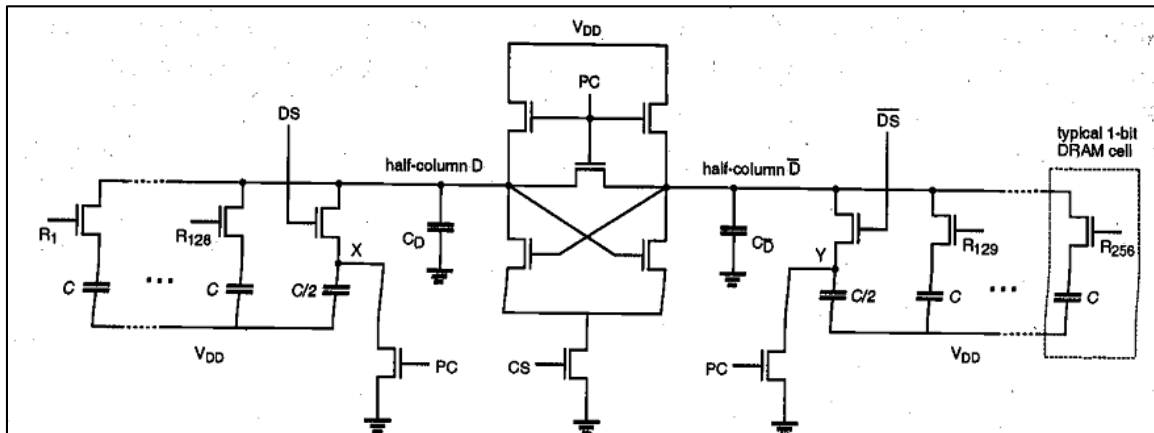
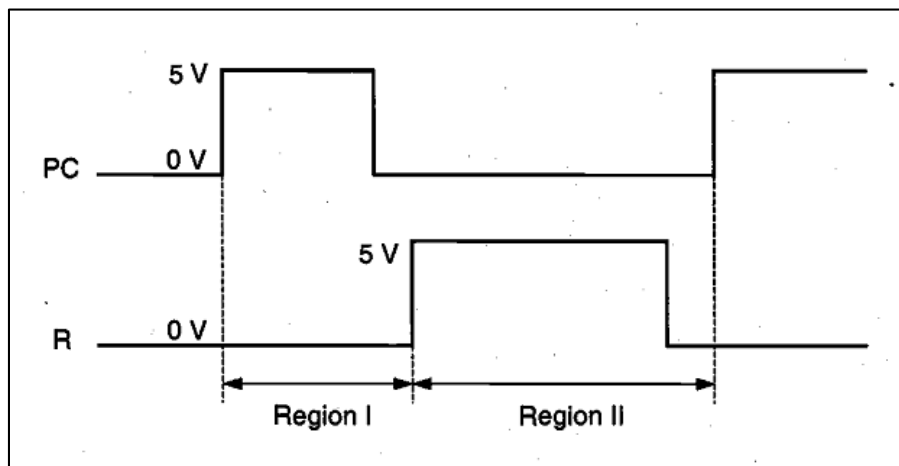

Figure 1
Figure 2
- 1) Consider the DRAM circuit shown in Figure 1 in the text. The threshold voltage of the two pre-charge transistors is 2 V. Calculate the steady state voltages of  $V_D$  in Region I and Region II of Figure 2 by assuming the following: